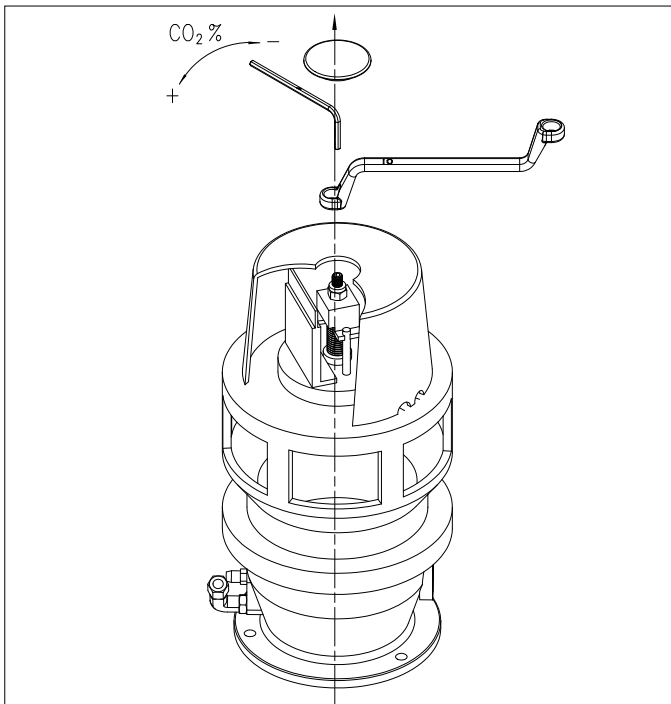

Fig. 23 Adjustment point CO₂% / O₂% IMS-system
- 16f. Check CO₂-percentage (O₂-percentage) against the table. Adjust if necessary using the adjustment screw on the IMS-system (see Fig. 23). Is the CO₂-percentage too high (O₂-percentage too low), turn the adjustment screw to the right, simultaneously holding the nut with a ringwrench. Is the CO₂-percentage too low (O₂-percentage too high), turn the screw to the left. Check the flame via the inspection window. The flame should be stable, mainly blue with burner surface covered by orange dots.